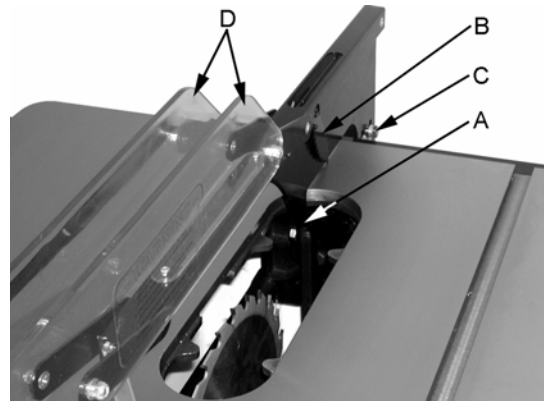

Figure 35
6. Insert front tab (A, Fig. 35) of blade guard assembly through insert opening in the table. Loosen the hex cap screw already installed at the factory and insert the front tab of the blade guard. The tab is held in place between the flat washer and bracket. Leave a 1/8" gap between the splitter and table. Tighten hex cap screw
Note: make sure the anti-kickback pawls (B, Fig. 35) are pointing towards the back of the saw.
7. Secure rear tab of blade guard assembly to the upper blade guard bracket with two hex cap screws (C, Fig. 35). Leave a 1/8" gap between the splitter and table. Tighten hex cap screws.